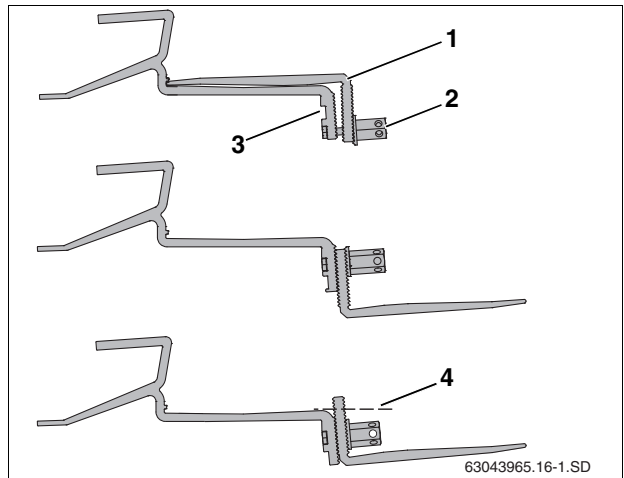

Fig. 15 Repositioning lower part of roof hook
- ▶ Loosen the long hex-nut (Fig. 15, [2]) and disassemble the unit.
- ▶ Insert bolt into upper hole (Fig. 15, [3]).
- ▶ Reassemble with the L-shaped piece (Fig. 15, **center**) facing away and down.
- ▶ Do not tighten the nut (Fig. 15, [2]) until the hook is installed and properly adjusted.